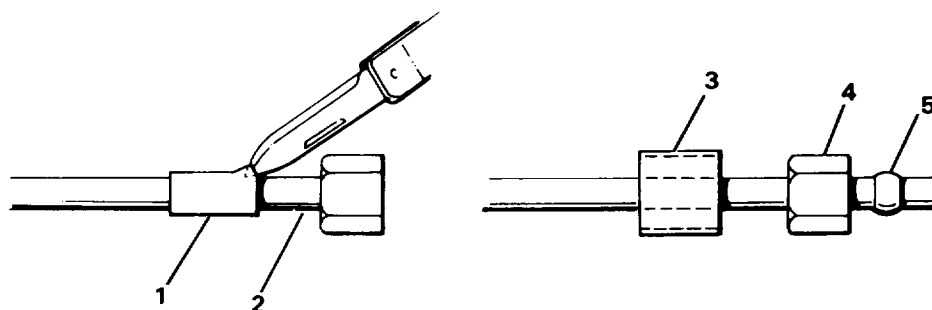

Figure 4-11. Tubing Markers
- a. Using knife, carefully cut away tubing marker being replaced (1, Figure 4-11).